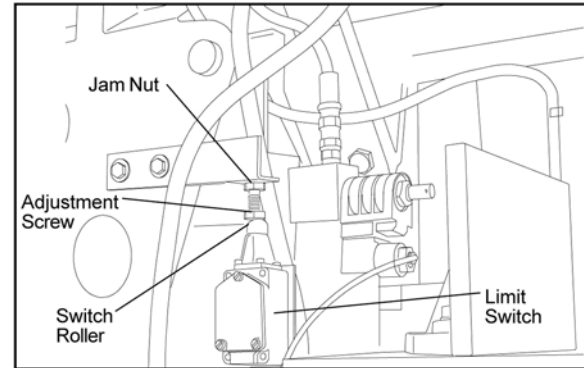

Figure 15: Limit switch adjustment
2. To set the limit switch, loosen the jam nut on the limit switch stop (Figure 15).